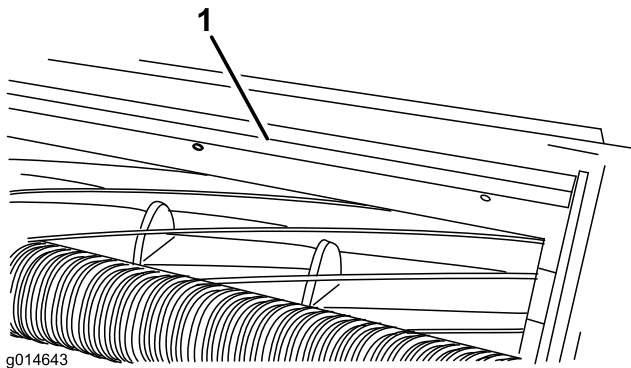

Figure 17
1. Loosen the screws securing the top bar (Figure 17) to the cutting unit.